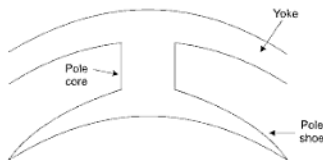

Fig. 7.3 Pole structure
Each pole is divided into two parts namely, (1) Pole core and (2) Pole shoe. This is shown in Fig. 7.3.